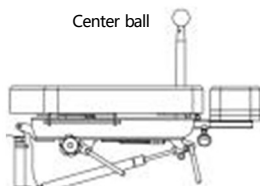

Figure 14
- Holding the center ball to achieve a  $360^{\circ}$  rotation of the lower limb section. (Figure 14)